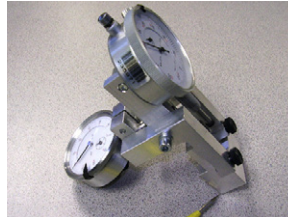

Figure 1
2. Assemble the head timing gauge (PN 32453-01) to the XT head timing adaptor (PN 33065) as shown in Figure 1.